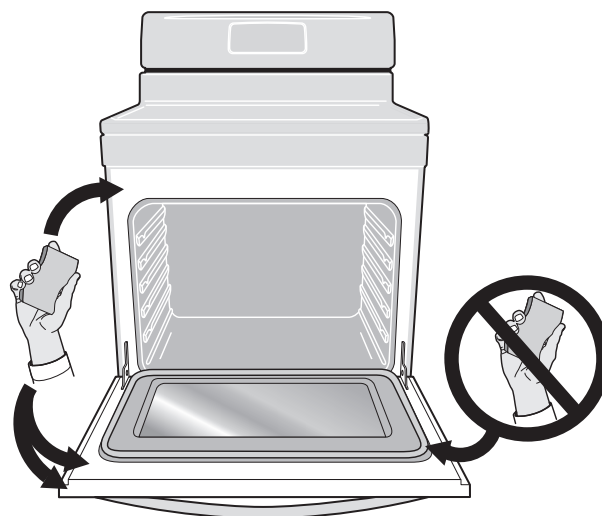

Figure 18: Areas to clean and to avoid
- Do not use oven cleaners or oven protective coatings in or around any part of the oven interior. Clean any soil from the oven frame, the door liner outside the oven door gasket, and the small area at the front center of the oven bottom (See Figure 18). These areas heat sufficiently to burn soil on. Clean using soap and water prior to starting Self Clean.